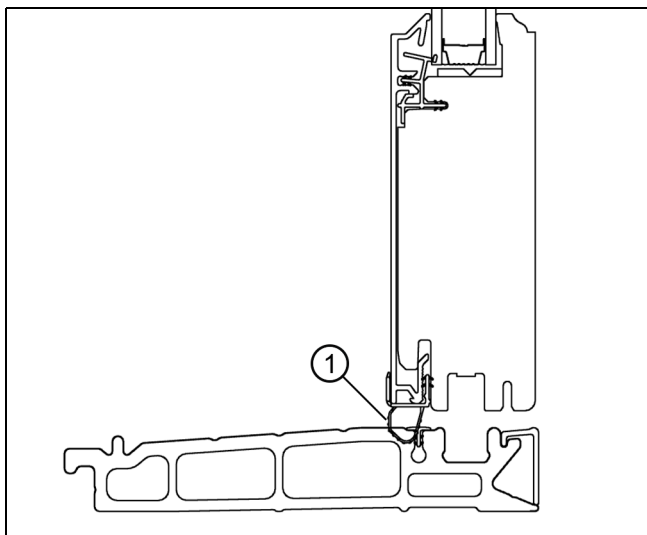

Figure 11
1. On active and inactive operator panels as well as interior stationary panels, insert the barbed side of the sill weatherstrip into the bottom of the panel. Rotate the other side to the clad side of the panel and then remove the adhesive backing. Press the weather strip onto the cladding. See Figure 11.